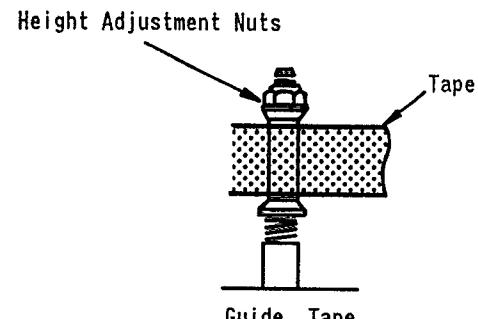

Fig. 5-6
8. After completion of the supply side guide roller adjustments, adjust tape guide so that tape runs as shown in Fig. 5-6, and adjust the take-up side guide roller by using the same procedures as for the supply side adjustments.
9. Confirm that there is no curling or creasing at the impedance roller (Both PLAY and REV modes). If there is any curling or creasing at the impedance roller, adjust the same procedures of Fig. 5-6.